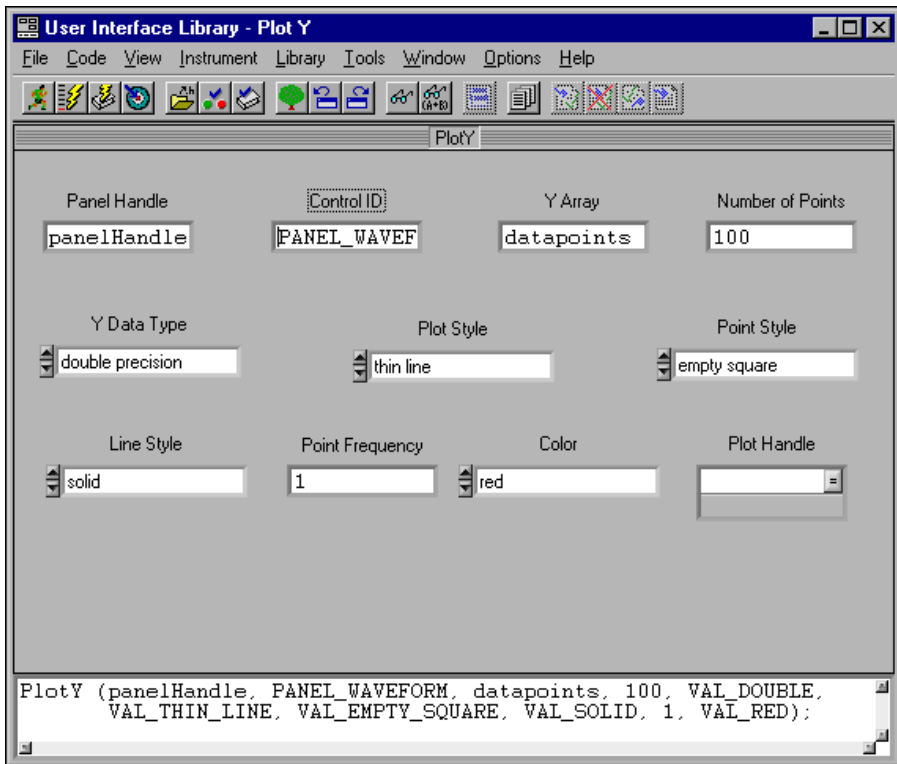

Figure 6-2. Completed Plot Y Function Panel
4. Type 100 into the **Number of Points** control. This number indicates how many elements in the array to plot. When your `PlotY` function panel matches the one in Figure 6-2, you are ready to go to the next step.